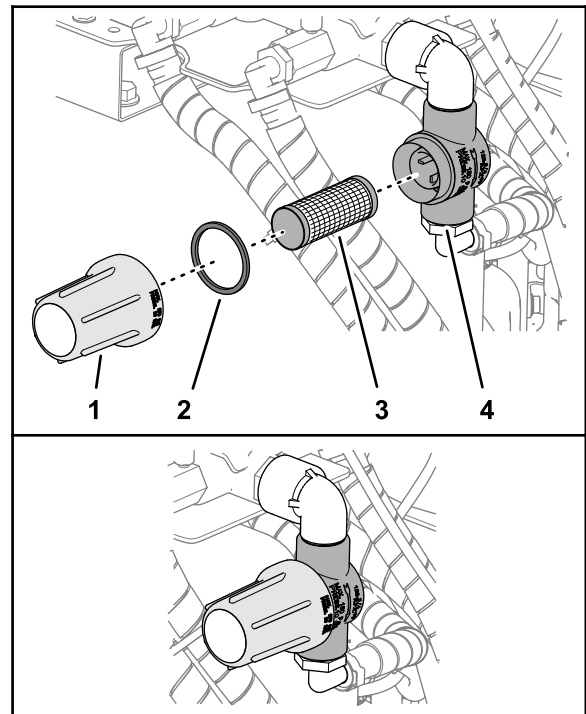

**Figure 51**
2. Align a drain pan under the strainer (Figure 51).